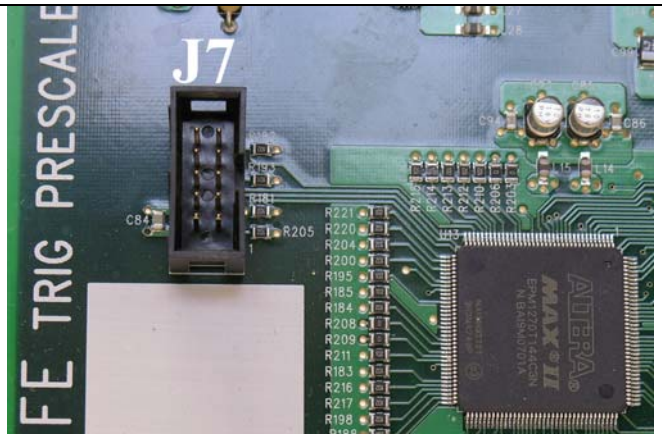

Figure 8: J7 connector (CPLD JTAG port)
2.1.m: CPLD JTAG port (figure 8)